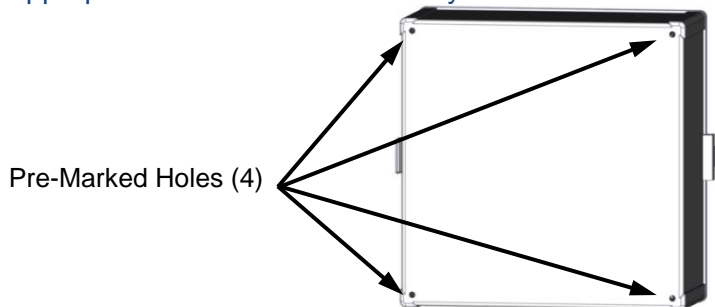

Figure 1: Wall Mounting Hole Locations
3. On the rear surface of the Modbus Transmitter Box there are four (4) pre-marked drill holes (see Figure 1). If these holes have not yet been drilled out, drill them with holes of appropriate size for the fasteners you will use.